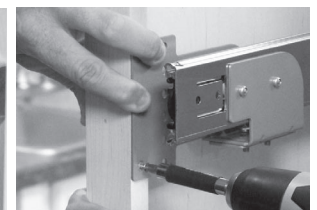

FIGURE 5A
Locate the bottom of the side-mounting bracket 15 3/4" (for 50 qt. frames) or 10-11/16" (for 35 qt. frames) from the floor of the cabinet. Attach each bracket to the inside of the face frame using the (3) #6 x 5/8" flat head screws provided. (SEE FIGURE 5A)